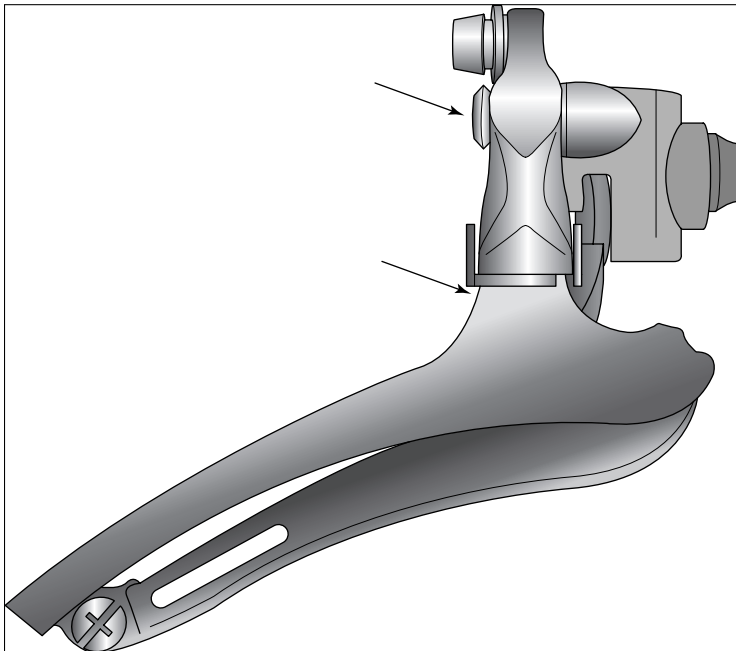
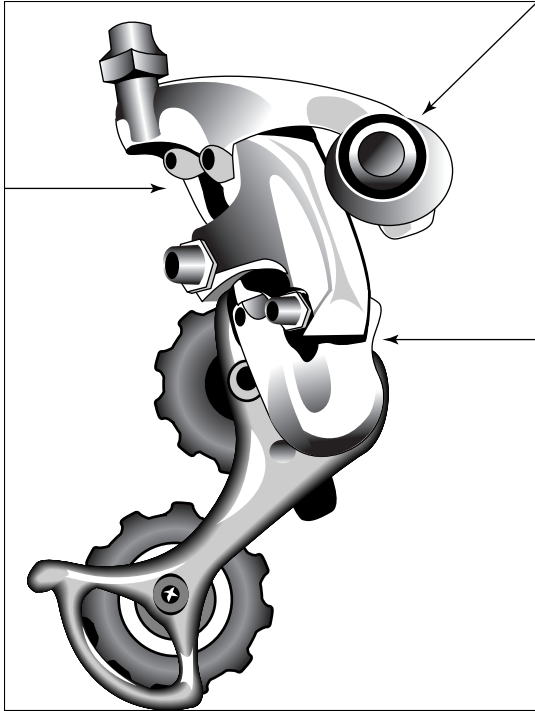

Figure 16-7:
Figure 16-8:
- ✔ **Derailleurs:** There are several pivot points where the front and rear derailleurs move. Cover each of these with a quick shot of lube. On the front derailleur, lubricate the pivot point (see Figure 16-7) On the rear derailleur, be sure to spray both of the pulley wheels (see Figure 16-8).